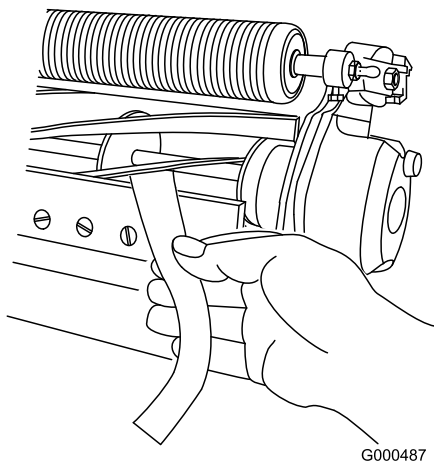

Figure 5
11. Test the cutting performance by inserting a long strip of cutting performance paper (Toro part number 125-5610) between the reel and bedknife, perpendicular to the bedknife (Figure 5). Slowly rotate the reel forward; it should cut paper